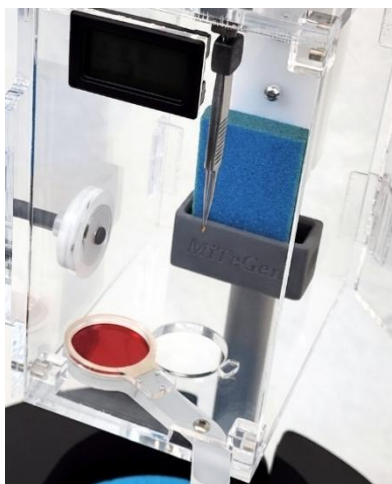

Figure 12: Opening the hatch cover to prepare for grid plunging
STEP 10. **Standard model only:** Slide open the enclosure's hatch cover as shown in Figure 12 below.